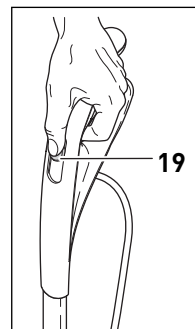

Figure 4
Starting The Machine - Figure 4
Make sure that the ON/OFF Switch (19) of your SEBO FELIX (figure 4) is in the OFF position.